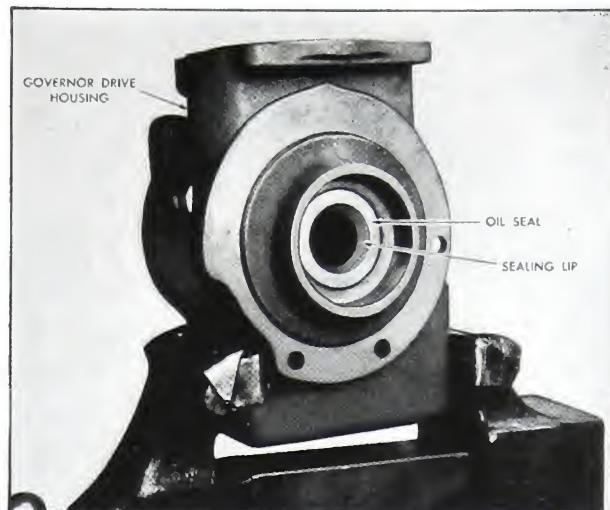

Fig. 5-155. Oil seal in governor drive housing
10. Replace the oil seal in the drive housing of compressor type or hydraulic governor type pumps. Drive out the old seal from the inside. Use a mandrel and press in the new seal, with the sealing lip toward the inside of the housing, 1/32" below the face of the shoulder. Fig. 5-155.